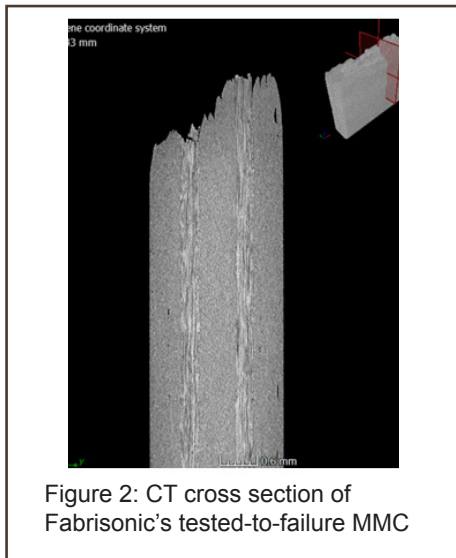

Figure 2: CT cross section of Fabrisonic's tested-to-failure MMC
EWI recently acquired cutting-edge, computed tomography (CT) equipment at its Buffalo, NY, facility. This technology allows nondestructive through-thickness examination of MMC parts as shown in Figure 2. Here, two individual ceramic fibers can be seen, sandwiched between the aluminum layers. The inset in the top right corner shows the location of the cross section within the part.